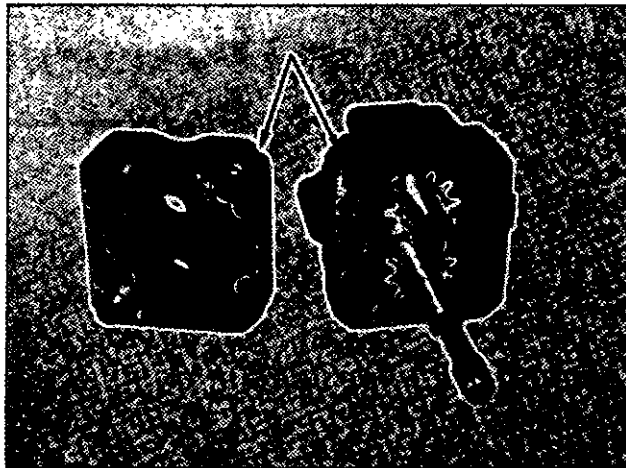

Fig. 5-3, (F524). Location notches of a gear pump with a right hand rotation.
3. Position a new gasket and install the cover on the body. Align the location notches. Fig. 5-3.